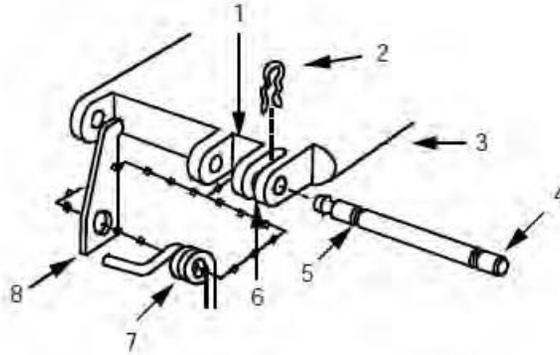

Figure 61. Headless Pin, Feed Mechanism Assembly, Torsion Spring, Middle Notch Slot.
33. Position catch cover (Figure 61, Item 8) as shown and torsion spring (Figure 61, Item 7) with straight leg toward cover and feed mechanism assembly (Figure 61, Item 3) in slot (Figure 61, Item 1).
34. Partially insert the end with two notches of grooved, headless pin (Figure 61, Item 4) into left side of cover and feed mechanism assembly (Figure 61, Item 3) and through torsion spring (Figure 61, Item 7) and catch cover (Figure 61, Item 8) until middle notch (Figure 61, Item 5) of grooved headless pin (Figure 61, Item 4) aligns with slot (Figure 61, Item 6), and insert retaining clip (Figure 61, Item 2).